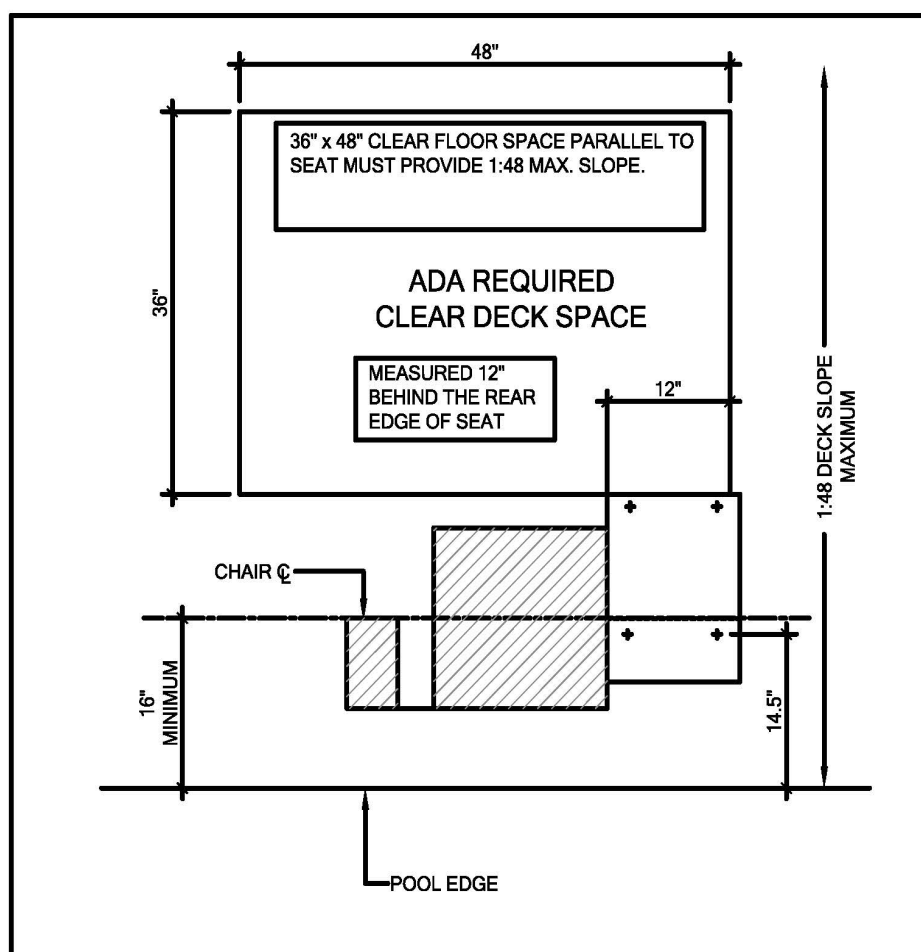

Fig. 1
Before installing the Independence 350 Lift is necessary to select the correct location for the mounting base. The model Pool Lift can be installed in a wide variety of locations, but the owner and installer should be aware of the regulations set forth by the American with Disabilities Act (ADA) with concern to lift installations. Fig. 1 below shows an example of an ADA compliant installation, which incorporates the following ADA rules in order to be compliant.
In the raised position, the centerline of the seat shall be located over the deck and 16 inches (405 mm) minimum from the edge of the pool, (per the Department of Justice, if a pool has a gutter, the actual pool starts at the edge of the gutter furthest from the pool deck). The deck surface between the centerline of the seat and the pool edge shall have a slope not steeper than 1:48. (See figure 1)
On the side of the seat opposite the water, a clear deck *space* shall be provided parallel with the seat. The *space* shall be 36 inches (915 mm) wide minimum and shall extend forward 48 inches (1220 mm) minimum from a line located 12 inches (305 mm) behind the rear edge of the seat. The clear deck *space* shall have a slope not steeper than 1:48. (See figure 1)
1. When you open the cardboard box, you will find the battery charger which has two (2) holes and the metal bracket, which can be mounted on the wall to hold your charger. Next is the hand controller, the control box which has four (4) holes, and the battery.
7. To determine the area to install the lift, see the ADA guidelines. (See Figure 1)